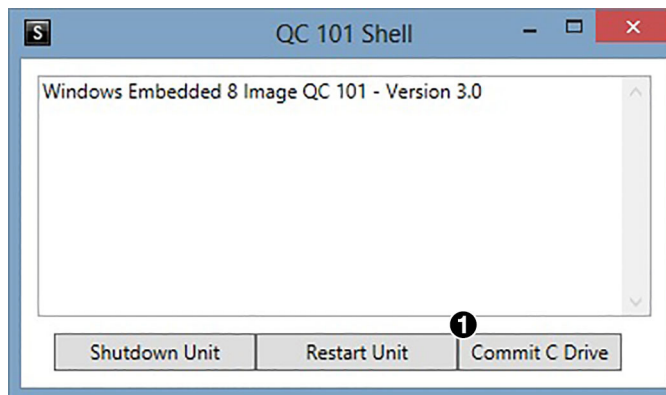

Figure 66. Commit C Drive Button on the QC 101 Shell Window
- b. On the Communications Setup screen, select **COM1** in the Devices panel (see figure 66, ①).
- c. In the Port Settings panel (②), enter the settings required by the control system being used.
- d. In the Serial Commands panel (③), select the **Input** and **Output** checkboxes to enable commands to be received from the control system via RS-232.